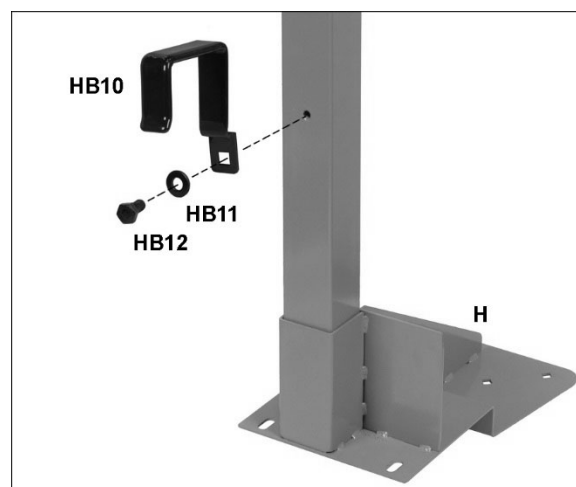

Figure 7-2
3. Attach storage hooks (HB10) onto the two left leg bracket assemblies. See Figure 7-2. Position hook as shown so that it will be correct when leg is turned upright. Tighten screw.